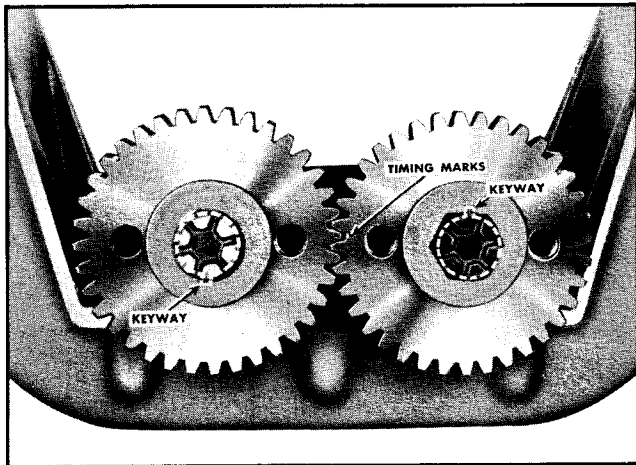
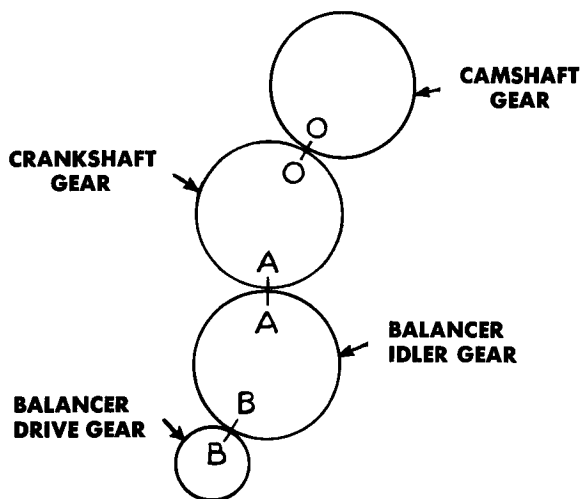

Fig. 4-29. Balancer timing marks
Fig. 4-30. Gear train timing marks
1. Bar engine over to No. 1 T.C. In this position the "A" timing mark on the crankshaft gear will be in position to mesh with the "A" timing mark on the balancer idler gear. See Fig. 4-30.
2. The timing marks on the balancer gears, Fig. 4-29, must be engaged as shown in Fig. 4-30, with the counter weights down.
4. Assemble units to the engine with timing marks engaged as shown in Fig. 4-29. If this is not done correctly serious damage may result.